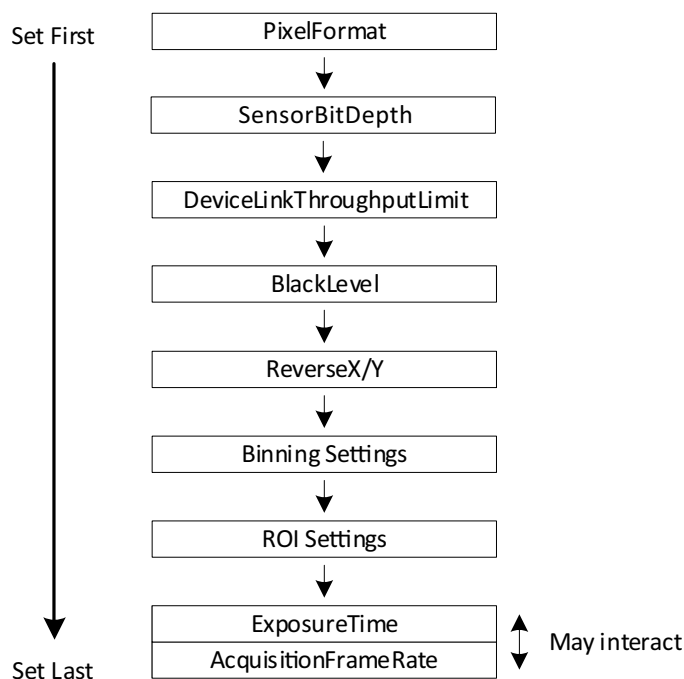

Figure 130: Interdependencies between features
The conversion between time and clock cycles affects control values. Features for pixel format, bandwidth, ROI, exposure time, and triggering are related to each other. Changing values for one feature can change values for another feature. For example, frame rates can be reduced when **PixelFormat** is changed subsequently. Figure 130 shows the interdependencies.
- To avoid readjustments, apply settings in the order shown in Figure 130.